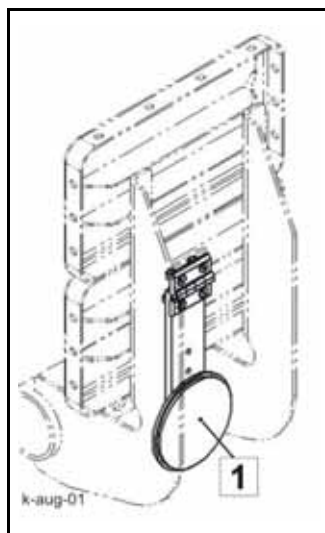

Fig. 51 Reflector
- Check the position of the rear reflector (1) (Fig. 51 Reflector).